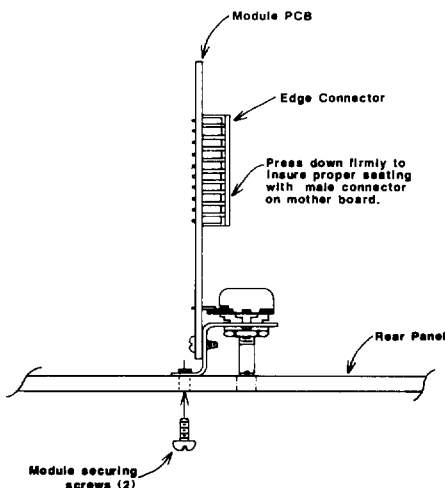

Figure 4. Module Installation
2. Plug the module into the desired channel position with the controls facing the rear as shown in Figure 4. Secure the module with the two screws provided.